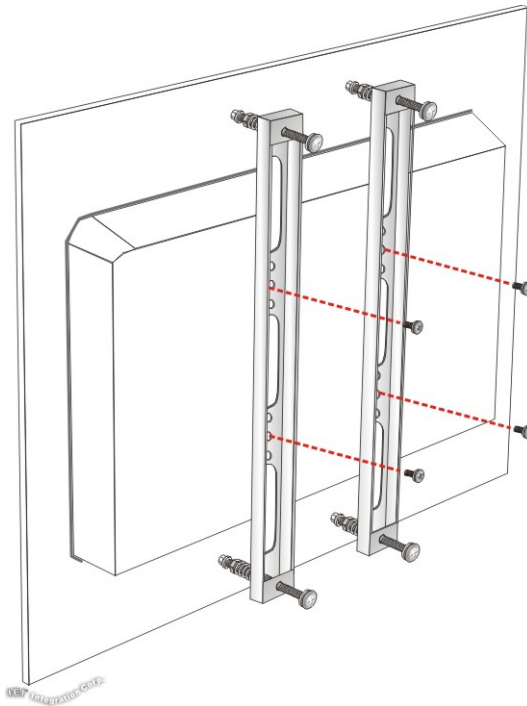

Figure 3-18: Securing Panel Mounting Brackets
Step 7: Secure the two panel mounting brackets to the rear of the panel PC by inserting the four retention screws into the VESA mounting holes and tightening them (**Figure 3-18**).